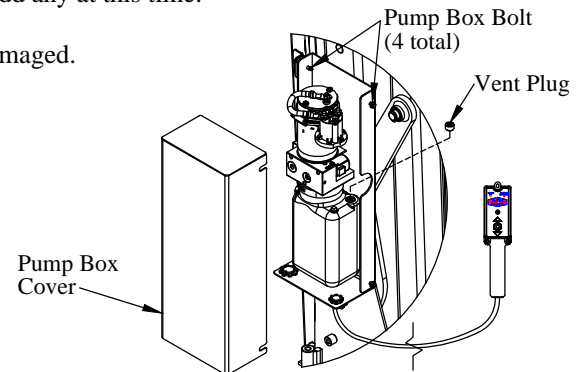

Figure 16: Pump and motor unit.
15. **Loosen** the four (4) pump box bolts (Figure 16).
16. **Remove** the pump box cover (Figure 16).
17. **Remove** the solid plastic shipping plug from the reservoir (Figure 16).